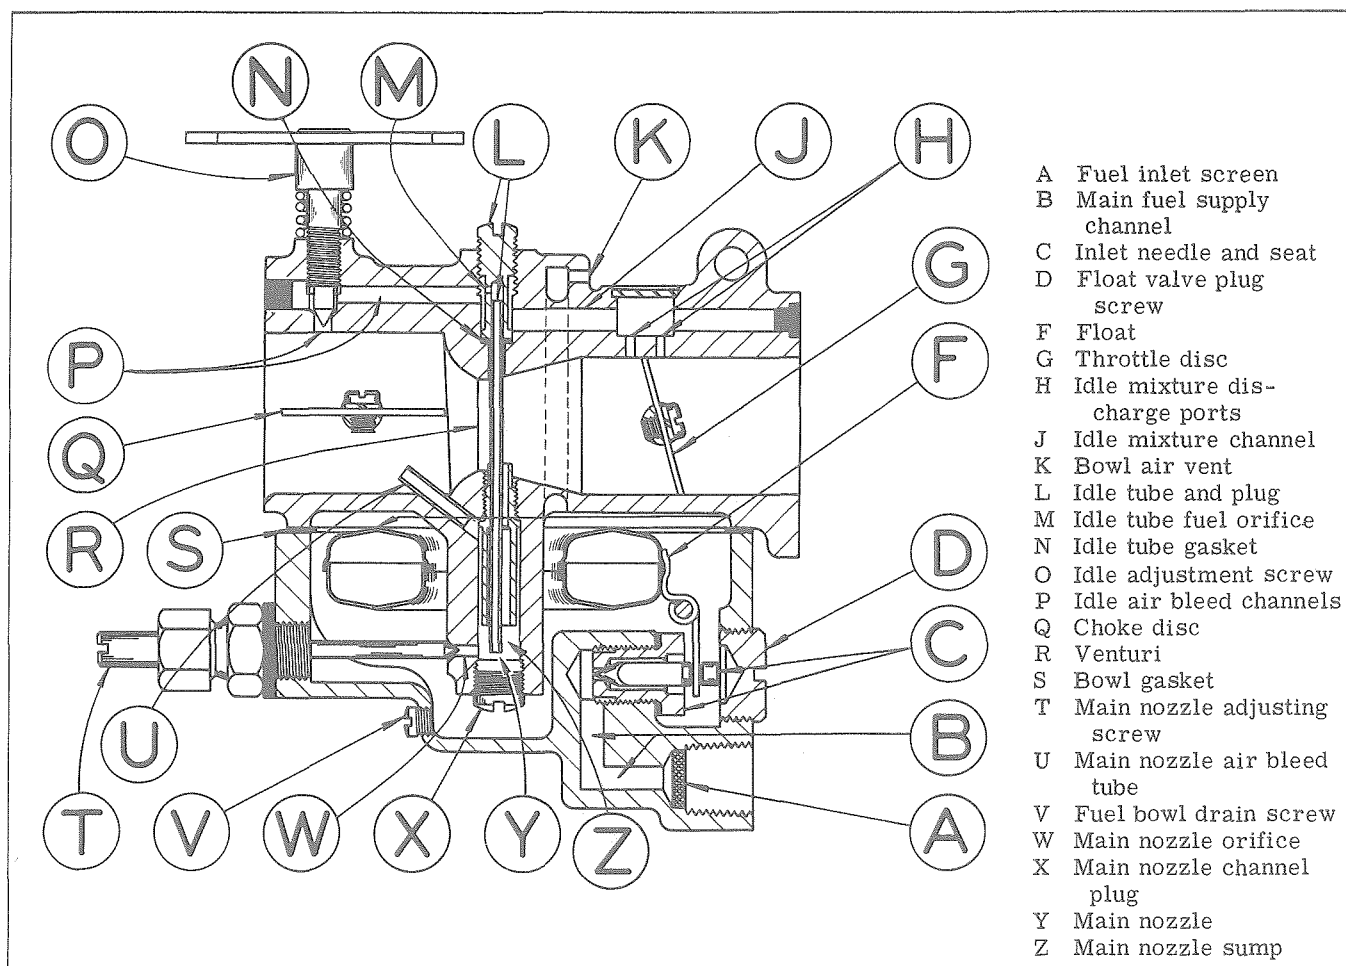

Figure 3F-12. MD Carburetor Cross Section
**ADJUSTING CARBURETOR (Fig. 3F-13)**